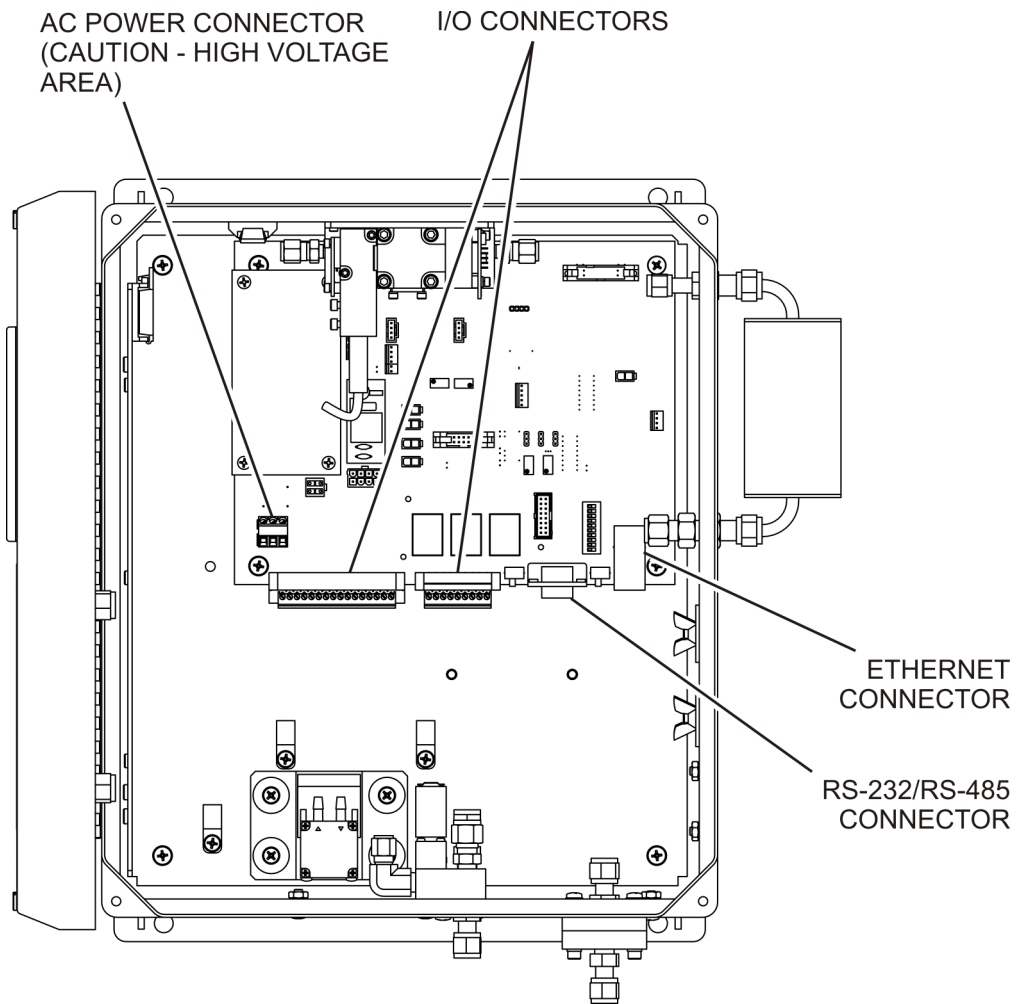

Figure 4-6: NEMA Electrical I/O Connections
2. Attach the leads of the power line to the AC power connector (see Figure 4-6).
In the NEMA configuration of the 465M, the I/O connectors are located internally in the instrument. See Figure 4-6 for their location. Connection to these terminals is usually made via a conduit connection to the NEMA enclosure. A standard conduit penetration may be added to one of the walls of the enclosure for this purpose, or the existing penetration may be used.